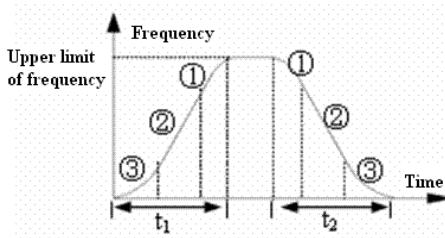

Fig.4-5 S-shape curve
Output frequency increases or decreases according to a S-shape curve, as shown in Fig.4-5.
Low speed time of S ramp is shown in Fig.4-5 as ③, where the changing rate of output frequency increases for 0.
Linear time of S ramp is shown in Fig.4-5 as ②, where the changing rate of output frequency is constant.
High speed time of S ramp is shown in Fig.4-5 as ①, where the changing rate of output frequency increases from 0. High speed time = 100% - P0.14 - P0.15.